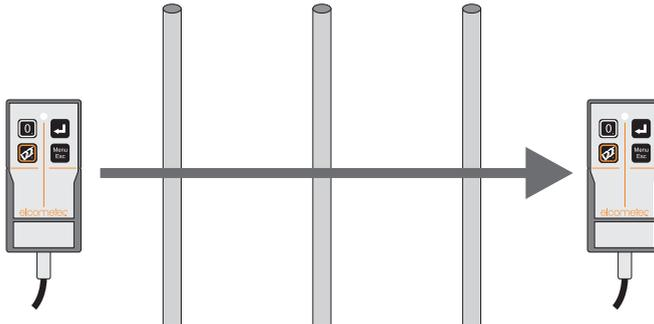

Figure 9. Align search head and scan across bars
8. Maintain the alignment of the search head and move the search head across the search area (Figure 9).